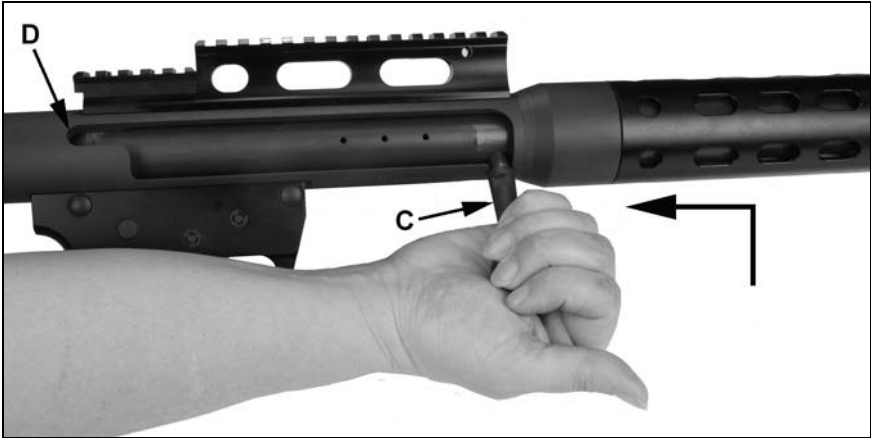

Figure 4
2. Lift up on bolt (C) and pull back into slot (D) in one smooth motion. See figure 4.